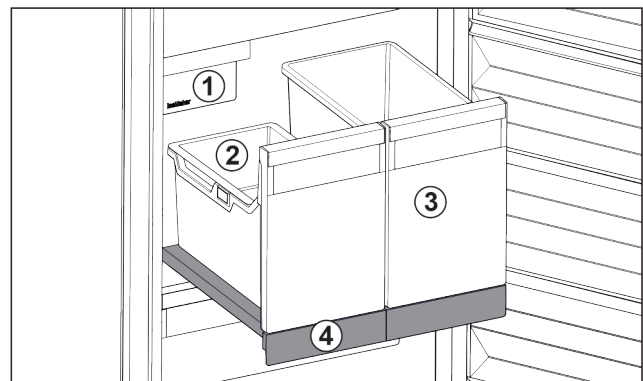

Fig. 81 Pull-out board with IceTower
- (1) IceMaker
- (2) Hang-on tray for ice cubes
- (3) Container for pizza or alcoholic beverages, for example
- (4) Pull-out board
On the pull-out board are two tall containers (IceTower). Ice cubes from the IceMaker are collected and stored in the container Fig. 81 (2). The container Fig. 81 (3) is suitable for storing tall foodstuffs or beverages such as pizzas or alcoholic drinks.